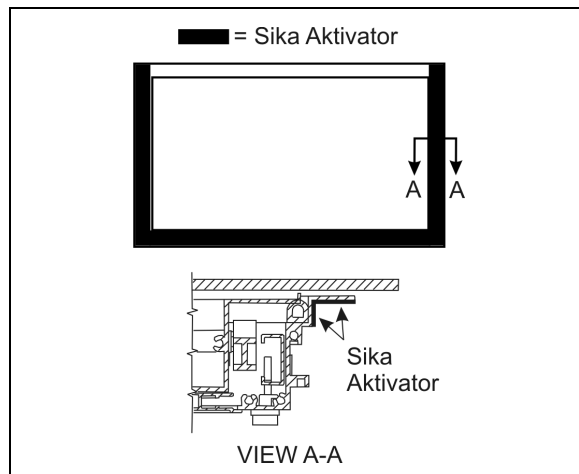

FIGURE 65 : AWNING WINDOW – SIKa AKTIVATOR
6. Apply Sika Aktivator as per FIGURE 65.